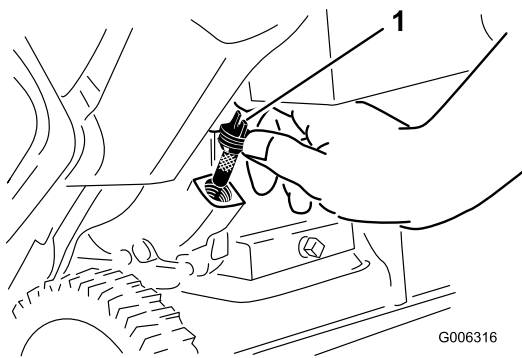

Figure 31
6. Clean around the oil fill cap (Figure 31).
7. Unscrew the oil fill cap and remove it (Figure 31).